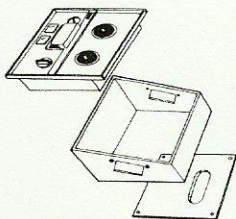
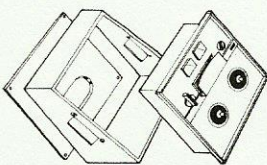

Fig. 3
Fig. 4
3. Shift the direction of the wooden case. For vertical use, make the wide, rubber-base side come to the amplifier section of the deck. (Fig. 3) For horizontal use, make that side come to the reel-shaft section of the deck. (Fig. 4)